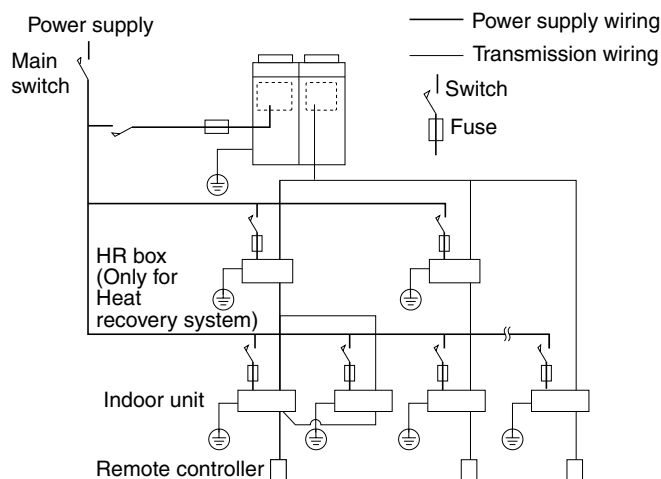

**Fig. 27**
Hold the switchbox lid and loosen the anchoring screws (2 pc.), then remove the switchbox lid. Align the phase and connect the wire to the power terminal block (6P) inside the switchbox. After connecting, use the included clamps (4) to bind the wire, together with the ground wire, to the anchor. (Refer to Fig. 27)
Hold the switchbox lid and loosen the anchoring screws (2 pc.), then remove the switchbox lid. Connect the wires to the power terminal block (6P) inside the switchbox. After connecting, use the included clamps (4) to bind the remote control wire, together with the connecting wire, to the anchor. (Refer to Fig. 27)